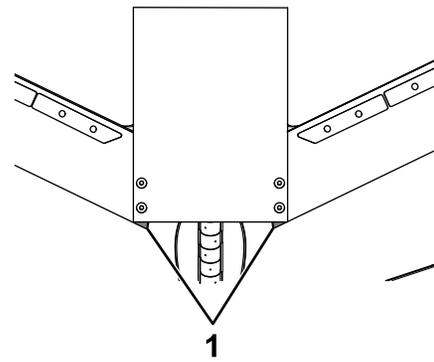

Figure 8
12. Trim the inner corners of the 2 belting sections to be flush with the bottom of the center belting (Figure 8).